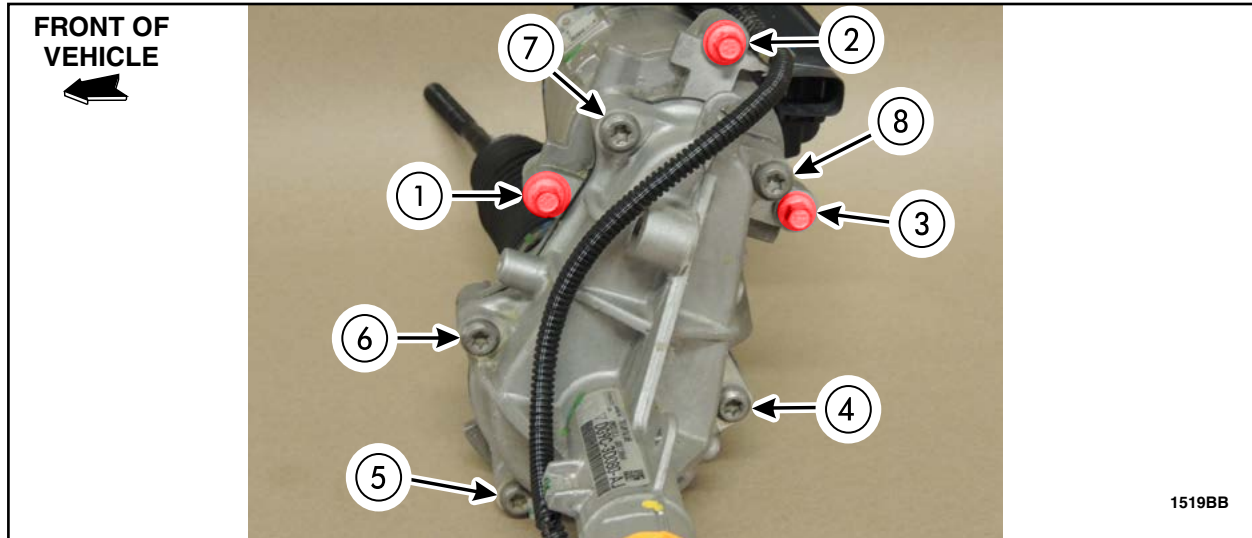
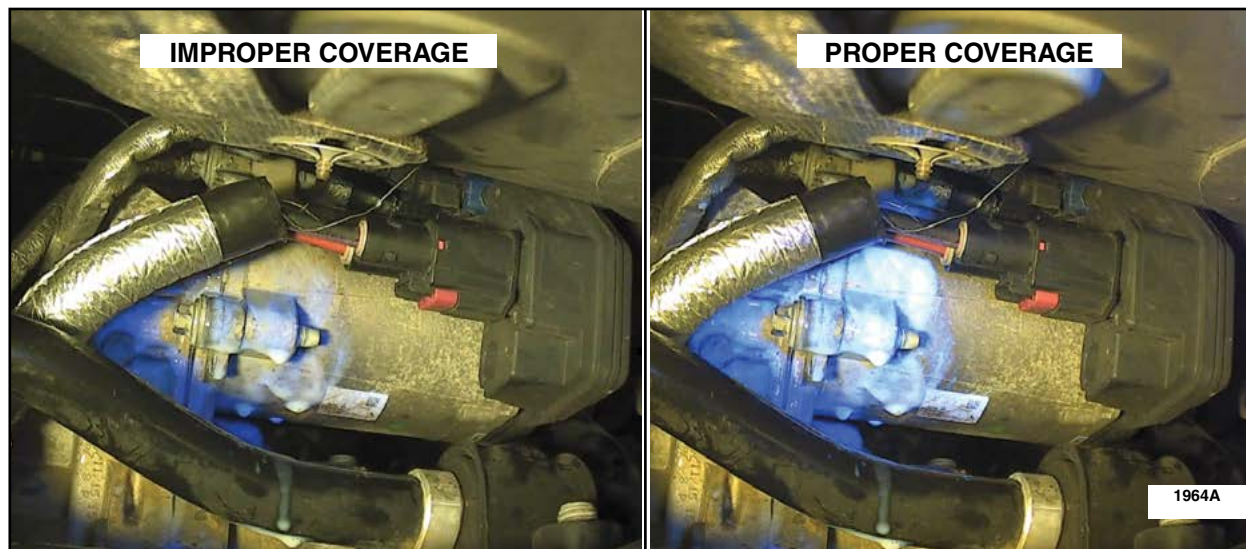

FIGURE 13
FIGURE 21
NOTE: Valugard™ Rust Inhibitor Aerosol VG-101A or Daubert NOX RUST® 7703-W Corrosion Protection must be applied to the eight steering gear bolt heads, threads, and the steering gear motor to gear housing mating seam. See Figures 13 and 14.
- Using a black light, ensure that the rust inhibitor coats the entire steering gear motor seam in addition to all of the bolts and threaded holes (8 total - see Figure 13). Apply additional rust inhibitor to any areas that are not fully covered. See Figure 21.